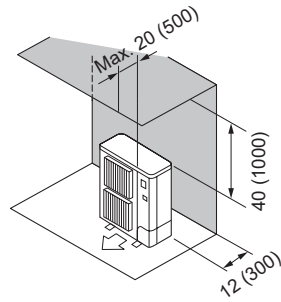

Fig. 2-7
- ② Obstacles at rear and above (Fig. 2-7)